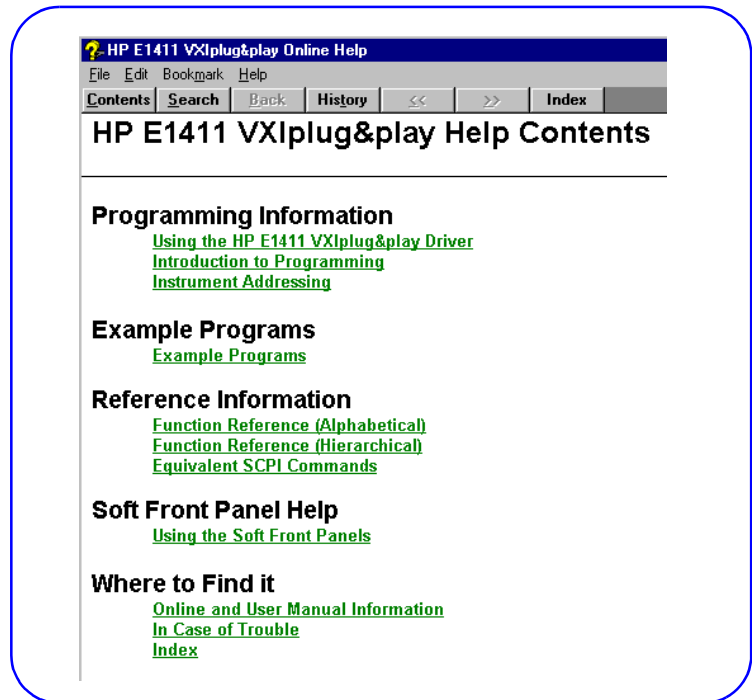

Figure 43. Typical *VXIplug&play* Help File Main Menu
- 3 For the first VXI instrument to be programmed, open the applicable instrument *VXIplug&play* Help File (*Start/Programs/Vxipnp/instrument help icon*). Figure 43 shows a typical *VXIplug&play* Help File main menu for the HP E1411 DVM that is displayed when you click *Start/Programs/Vxipnp/HP E1411 Help (32-bit)*.